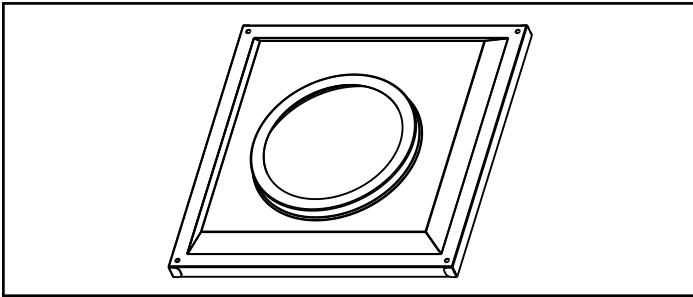

Figure 7.16 Wall Thimble
- Once the pipe section and the termination cap have been connected, slide the wall thimble up to the interior wall surface and attach with screws provided. See Figure 7.16.